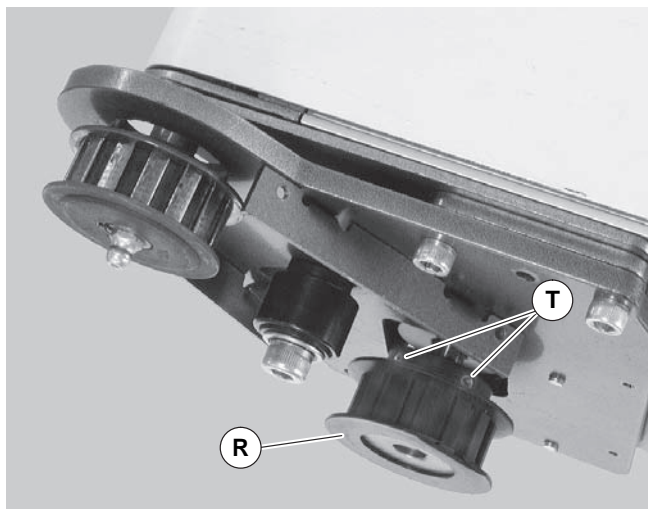

Figure 21
6. Loosen two (2) set screws (Figure 21, item T). Remove drive pulley (R).
8. Mount new gearmotor with four screws (X). Tighten to 45 in-lb (5 Nm).
9. Replace drive pulley (Figure 21, item R) and tighten set screws (T).